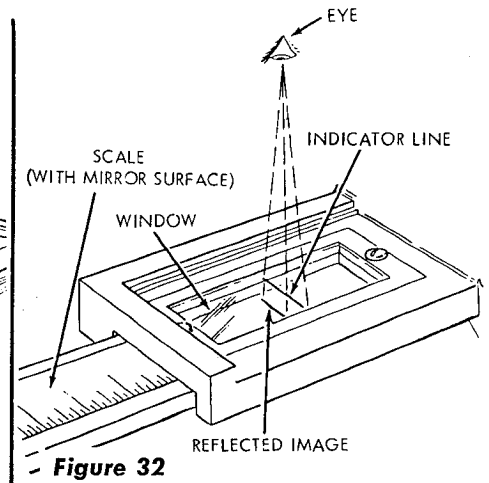

Figure 32
- (2) Position the rip fence on the right-hand side of the saw blade with the fence channel one-inch from the blade and lock the fence. Be sure to use one of the teeth bent (set) to the right of blade. Measure from this to the fence, since this determines your width of cut. This distance should be measured accurately with a scale.
- (3) Set the right-hand indicator (a scribed line in the plastic window) to "1" inch on the guide-bar scale. This is accomplished as follows:
- (a) A close look will show a reflection of the indicator line on the mirror surface of the guide-bar scale. In order to make sure that you are sighting squarely above the scale, move your eye until the indicator line and its reflected image coincide. (See figure 32.)
NOTE: When properly adjusted, the indicators may be used for most operations, thus eliminating the need for actual measurements except for extreme requirements. When sighting the indicator, always use the system shown in figure 32 in order to make sure the sight angle is correct.